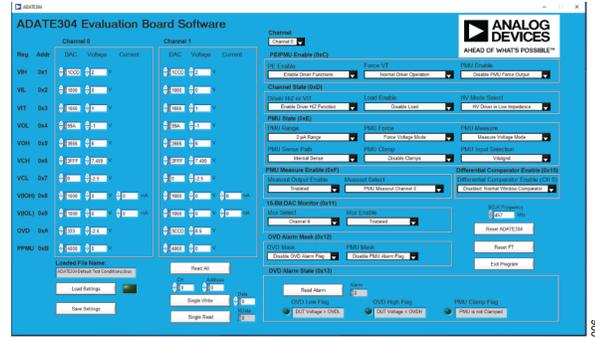
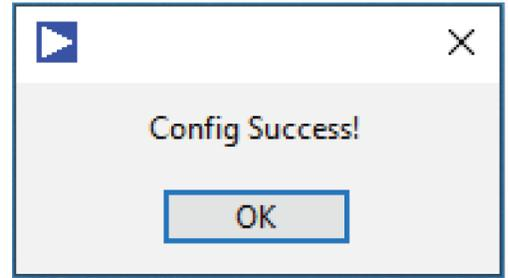

Figure 7. User Interface Default Values
Figure 8. Configuration Success Prompt
- a. When the **ADATE304 Evaluation Board Software** opens, the main window opens if there are no issues (see Figure 4) and displays configuration success (see Figure 8). Otherwise, a command prompt indicating any error appears. Figure 5 shows an examples of error prompt. Follow all the recommendations within the prompt window before attempting to start the software again.
- c. To verify the hardware communication, load the **ADATE304 Default Test Conditions.sbus** file. If the EVAL-ADATE304BBCZ successfully communicates with the PC, the software user interface (see Figure 7) reflects the default values (see the ADATE304 data sheet for more information). If the user interface does not reflect the default values, perform the following steps:
6. Open the **ADATE304 Evaluation Board Software**, the command prompt displays configuration success (see Figure 8). Then, load the **ADATE304 Default Test Conditions.sbus** file to confirm if the user interface reflects the default values of the registers (see Figure 7).